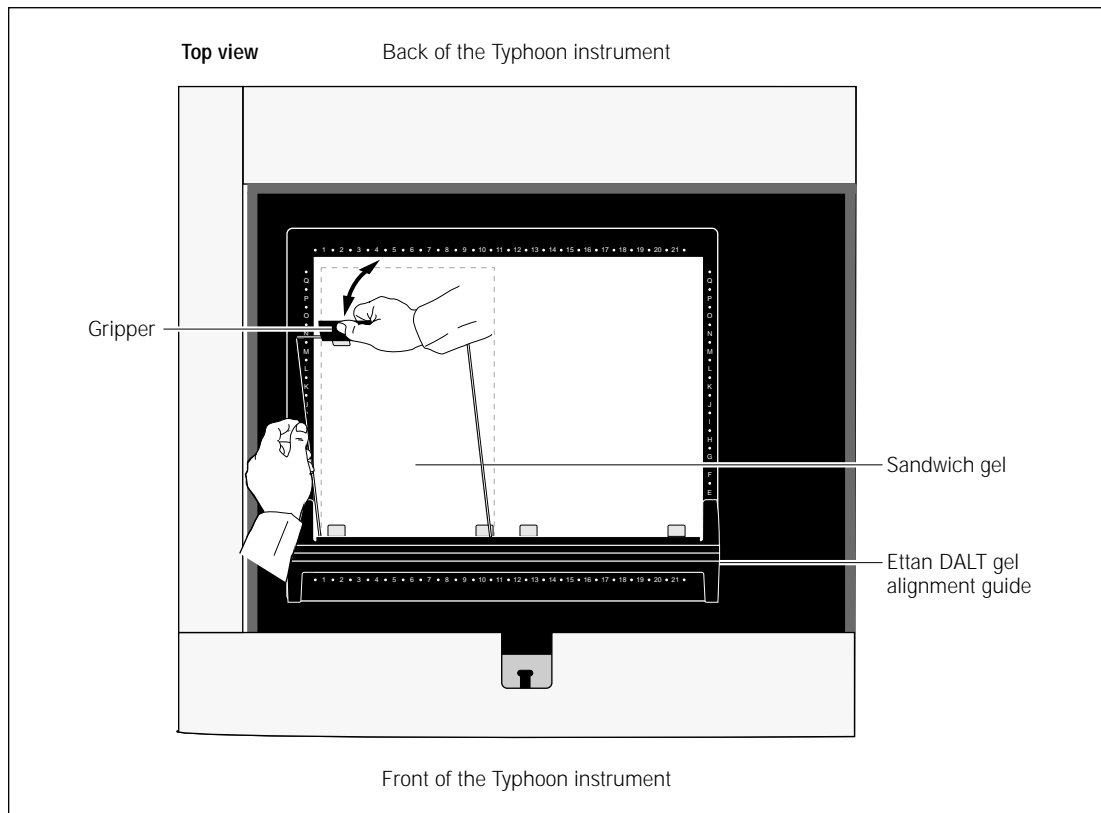

Figure 8-7. Placing the Ettan DALT gel alignment guide and sandwich gel with attached gripper on the glass platen.
3. Place the guide along the front edge of the glass platen as shown in figure 8-7.
5. Holding the sandwich gel by the gripper and one edge, place the edge of the sandwich gel without the gripper on the edge of the guide (figure 8-7). Make sure the sandwich gel rests on the two spacers.